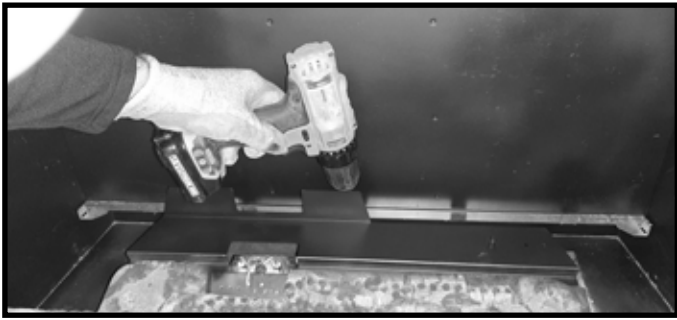
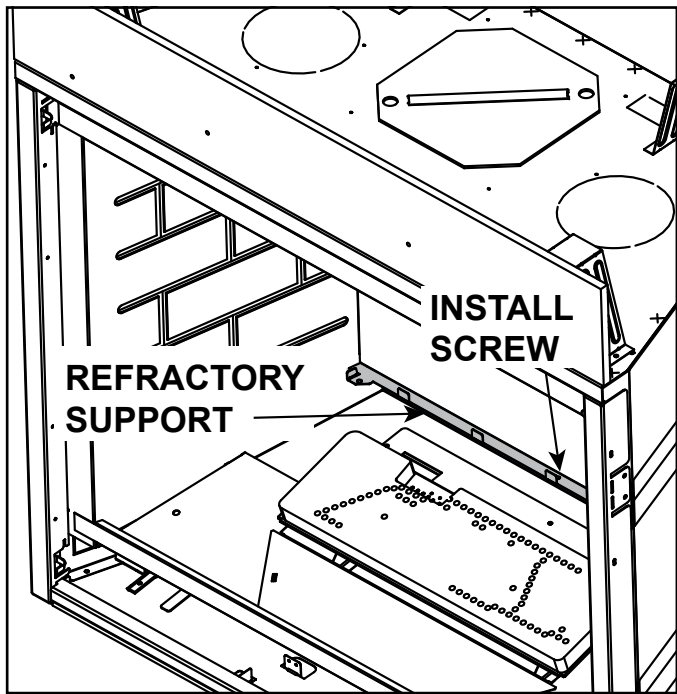

Figure 3 Install Back Refractory Support
Figure 4 Back Refractory Support Installed
- Place back refractory support on back air passage return bend, align holes and install with one screw as shown in Figure 3 and Figure 4.